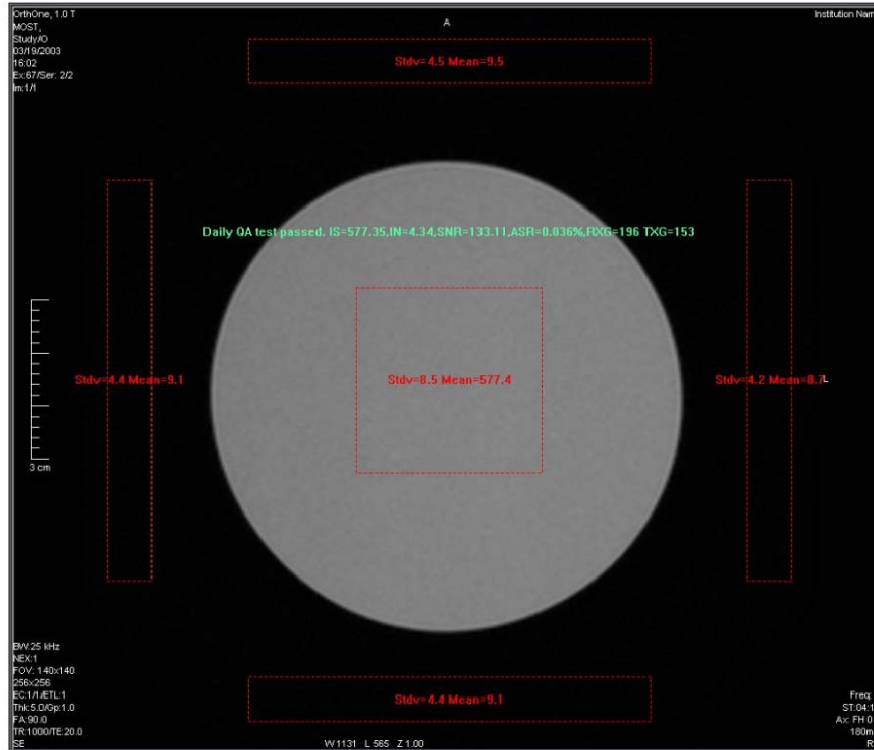

Figure 1: Example of SNR image in Scan Display using the 180mm RF coil
2. In the resulting image (viewed from the 2D Viewer or Scan Display), a summary line will be displayed (refer to Figure 1). Record the following values:
- » Signal Mean (IS)
As an example, from Figure 1, $A=577.4$, $B=(4.4+4.2)/2=4.3$, $C=(4.5+4.4)/2=4.45$,